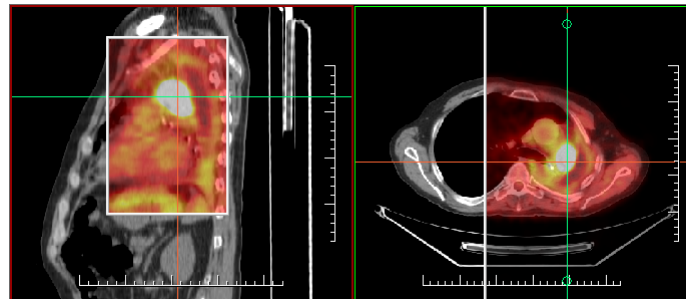

Figure 212 – Fusion images between MR and PET series
- Vertical** - the view is divided with a vertical line, image from the fusion series is on the right side (see Figure 212, right)
- Rectangle** - the image from overlaying series is inside the rectangle (see Figure 212, left)